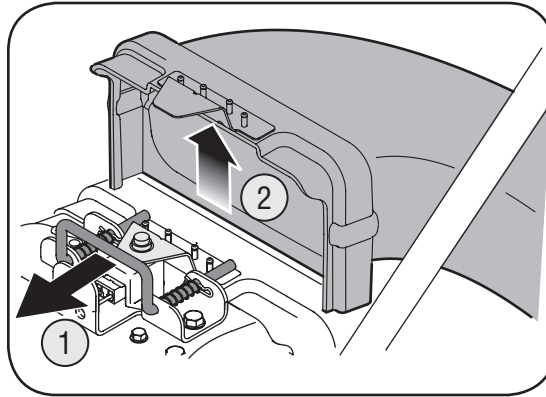

Figure 4-6
1. Grasp blower chute with one hand and pull lock rod on mounting bracket with other hand toward engine to release. Refer to Figure 4-6.